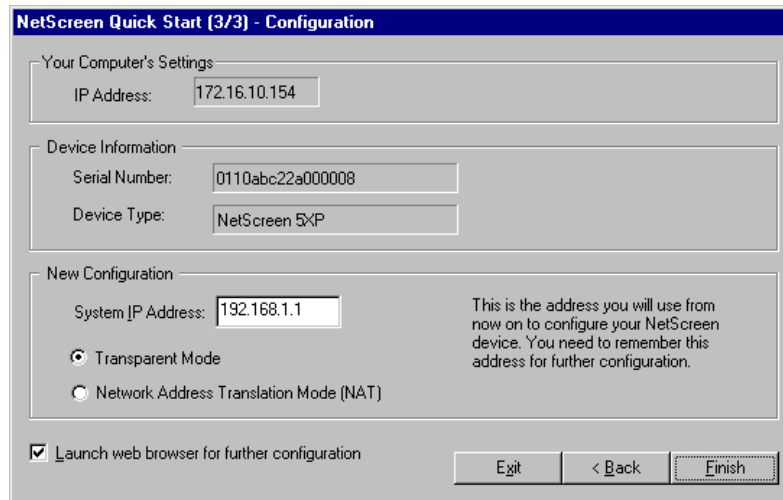

Figure 3-4 NetScreen Quick Start-Configuration Dialog Box
6. Enter the new System IP address for the NetScreen device you are configuring, as shown in Figure 3-4 on page 3-6. This value must be an available address on the Trusted subnet. This is the address that you will use to further manage the NetScreen-5XP.
1. To launch your NetScreen-5XP in Transparent mode, select **Transparent Mode** as shown in Figure 3-4.